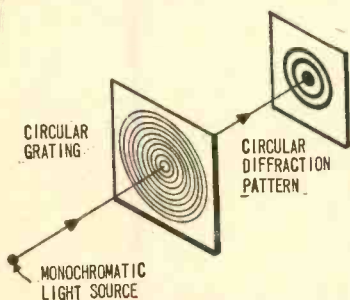

Fig. 7. Circular diffraction grating produces circular pattern. Fingerprints can be considered as curved gratings.
**Fingerprint Recognition.** Fig. 7 shows the type of diffraction pattern that is produced by a wholly circular grating. A fingerprint is essentially a curved grating, though